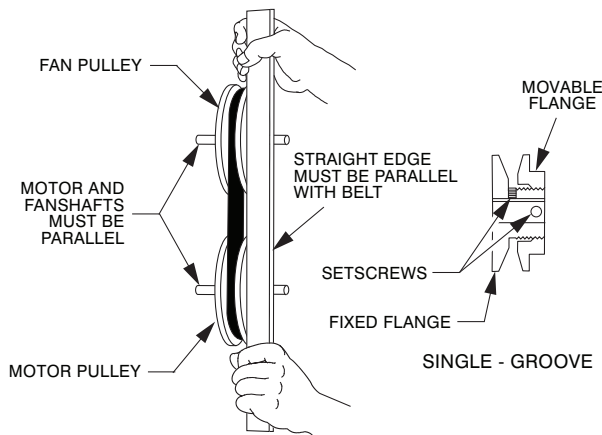

Fig. 8 - Supply-Fan Pulley Adjustment
around the fixed flange side that increases or reduces the pitch diameter of this driver pulley. (See Fig. 8.)
3. Loosen movable pulley flange setscrew. (See Fig. 8.)
26. Align the motor pulley and blower wheel pulley using a straight edge. See Fig. 8.